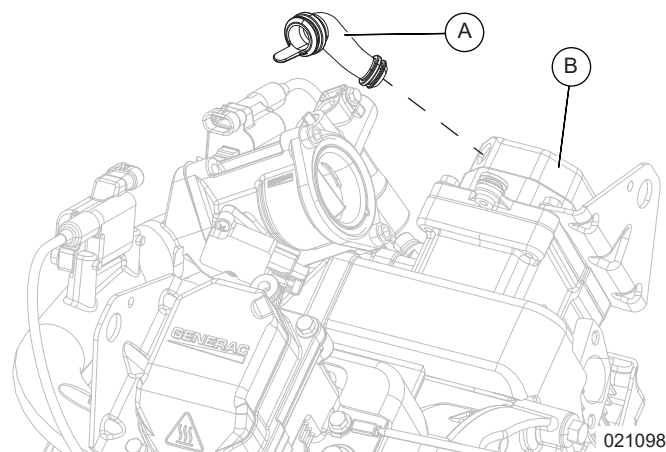

Figure 6-11. Remove Breather Hose
- See Figure 6-11. Gently remove breather hose (A) from rocker cover (B) facing the blower side of engine. Do not damage hose.